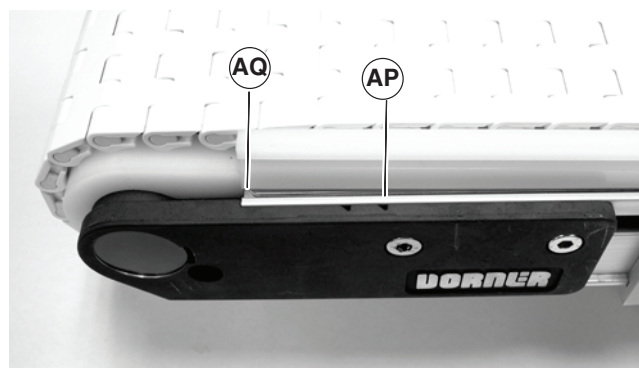

Figure 24
2. Extend head plate assembly so belt sag is between minimum shown in Figure 21 and maximum shown in Figure 22. If proper tensioning cannot be obtained before (Figure 24, item AP) is even with the end of the conveyor frame (AQ), belt links must then be removed. See section “B Removal of Belt Links”.